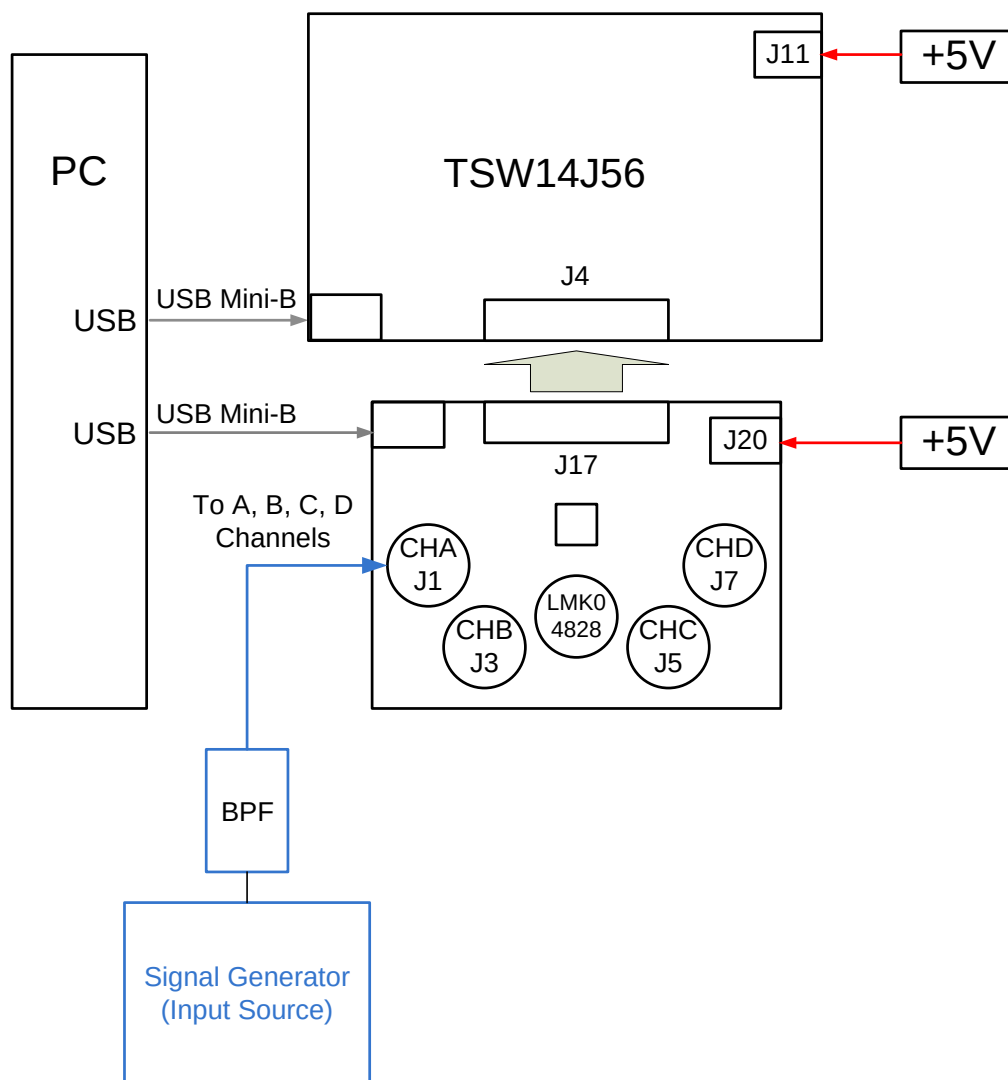
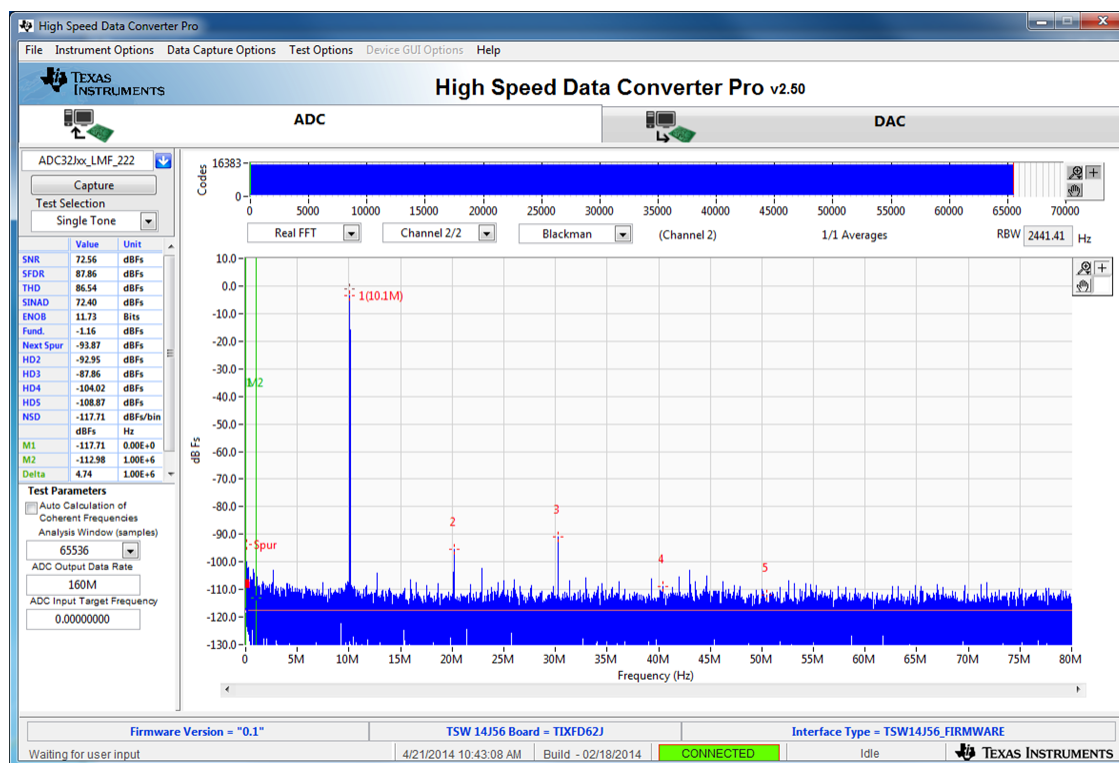

Figure 16. ADC32Jxx/ADC34Jxx and TSW14J56 Test Setup Block Diagram
Figure 18. ADC32Jxx Operating in 14-Bit Mode at 160 Msps with 10-MHz Input Signal
The test set-up for evaluation of the ADC32J/34Jxx EVM with the TSW1456 Capture Card is shown in Figure 16. As seen in this figure, the evaluation setup involves a clock from a high quality on board clock chip LMK04828 and a sine wave for the analog input from a high-quality signal generator. High order, narrow bandpass filters are usually required to remove phase noise and harmonic content from the input sine waves. Since the on board clock and input sinewave are not coherent then the resulting FFT will need to have a windowing function such as Blackman-Harris/Hamming/Hanning applied to the data.
5. Select the number of sample points (and resulting number of FFT bins) to be used. The example shown in Figure 18 has 65536 samples.
6. Enter the ADC32J/34Jxx sampling rate. The example shown in Figure 16 has the sample rate set at 160 Msps
7. Enter the input frequency desired. The example shown in Figure 16Figure 18 has the filtered input frequency set at 10 MHz and around 10 dBm – adjust to achieve –1 dBFs on the HSDC Pro FFT plot
10. Observe an FFT result similar to that of Figure 16